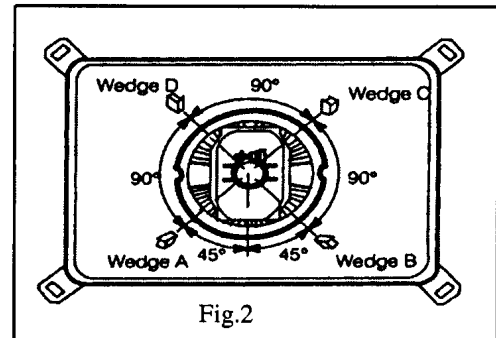

Fig.2
8. Wedge A shown in Fig. 2 should be fixed within a range of 45° to the left of the vertical line as shown.